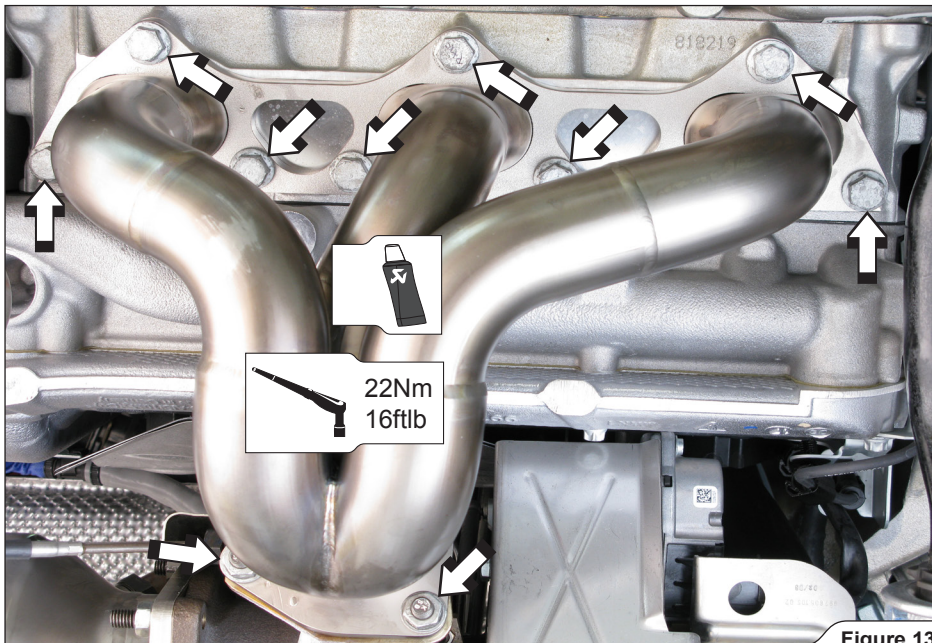
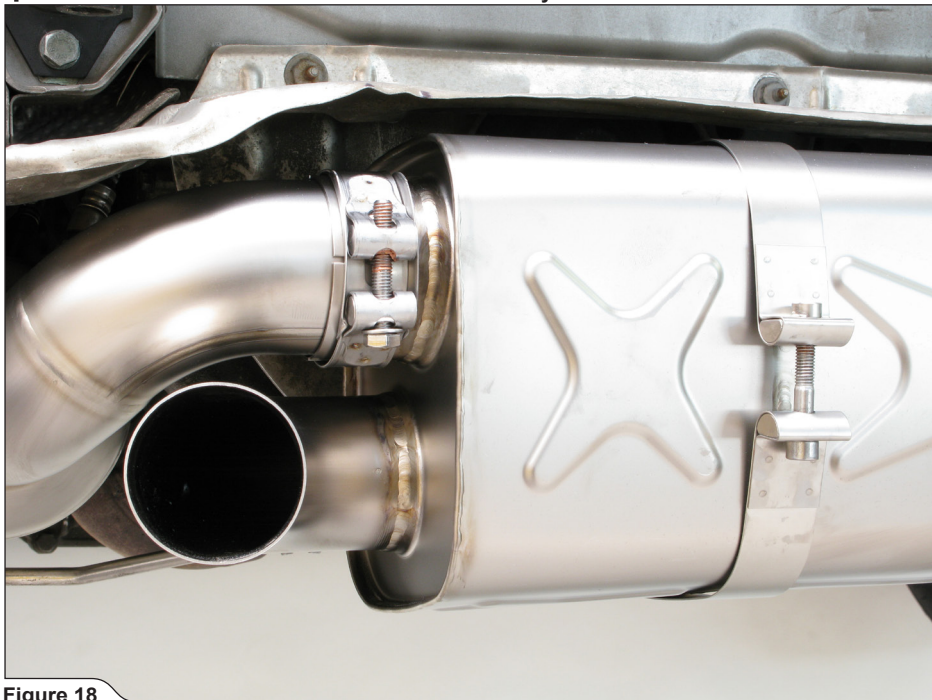
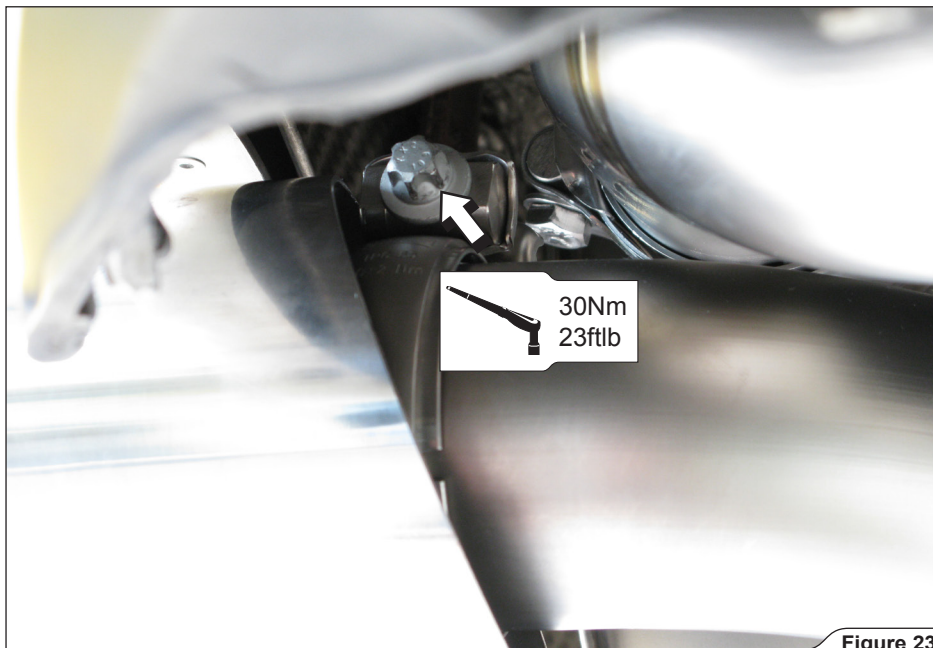

Figure 13
Figure 18
Figure 23
1. **For Evolution:** set the left and right Akrapovič headers with new stock gaskets and hand tighten all bolts and nuts first (**Figure 13, 14**). Tighten bolts and nuts to a specified torque using criss-cross pattern in three steps **on the left side headers only!**
5. **For Slip-On and Evolution:** center and align the muffler in respect to the vehicle chassis (**Figure 23**). Tighten all muffler clamps to a specified torque (**Figure 18**). **Now tighten the right side headers to a specified torque (Figure 13; Page 20)!**